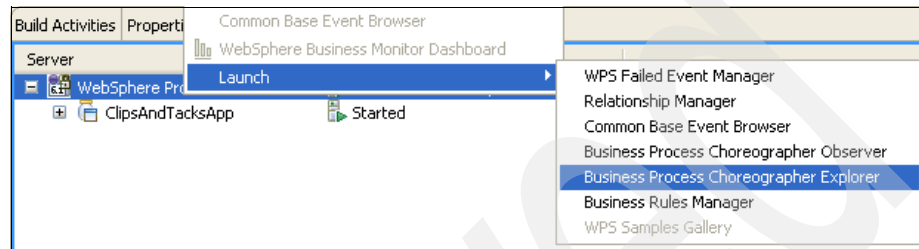

Figure 5-89 Launching Business Process Choreographer Explorer
1. In the Servers view of WebSphere Integration Developer (Figure 5-89), right-click **WebSphere Process Server v.6.1** and select **Launch** → **Business Process Choreographer Explorer**.